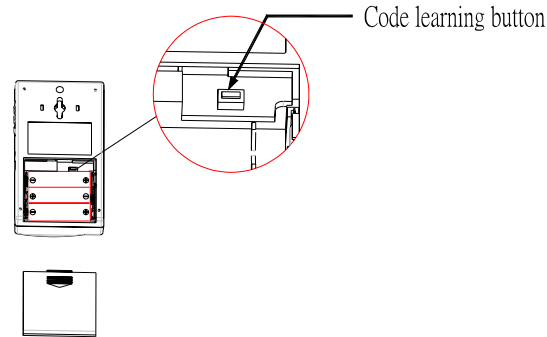

FIGURE 2b
Step 3: Using a ball-point pen, press and hold the code learning button for more than 3 seconds. (FIGURE 2b & 2c)
- Step 3: Using a ball-point pen, press and hold the code learning button for more than 3 seconds. (FIGURE 2b & 2c)
Step 2: Using a ball-point pen, press the code learning button for more than 3 seconds. (FIGURE 2b & 2c)